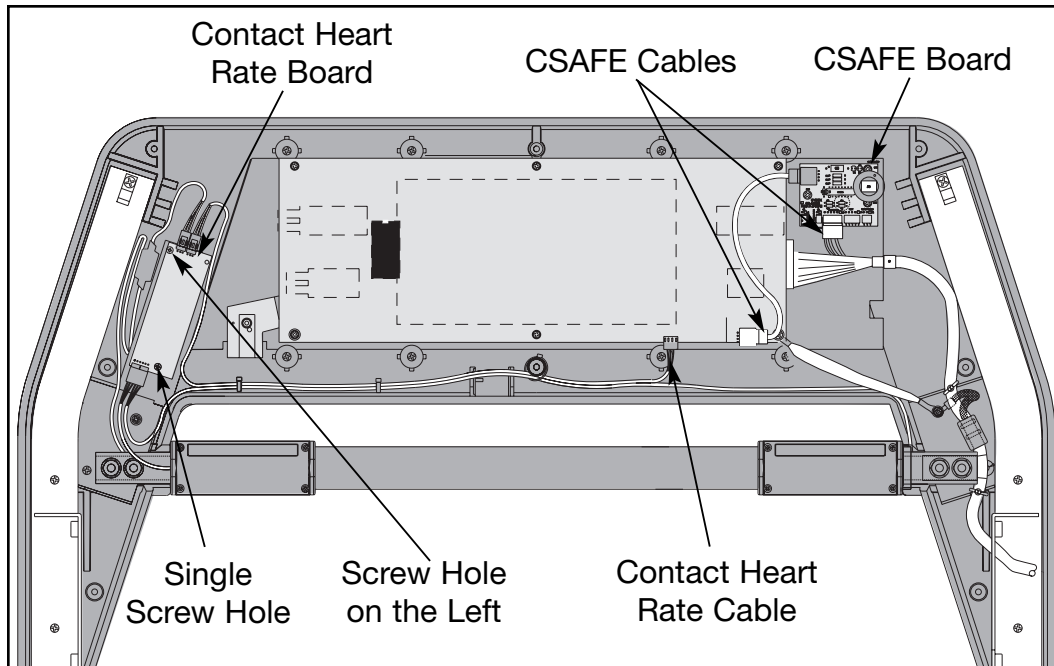

Figure 19
- A. While wearing an ESD strap, unscrew the two Phillips head screws holding the contact heart rate board in place. See Figure 19.
- B. Disconnect the contact heart rate cable from the display board. See Figure 19. The board is now free to remove.
- B. Attach the contact heart rate board with the two Phillips head screws. The screw on top goes in the hole on the left. See Figure 19.
- C. Connect the contact heart rate cable from into the display board. See Figure 19.
- B. Disconnect the 4 pin CSAFE cable that branches off from the display cable. See Figure 19.
- C. Connect the 4 pin CSAFE cable that branches off from the display cable into the CSAFE board. See Figure 19.